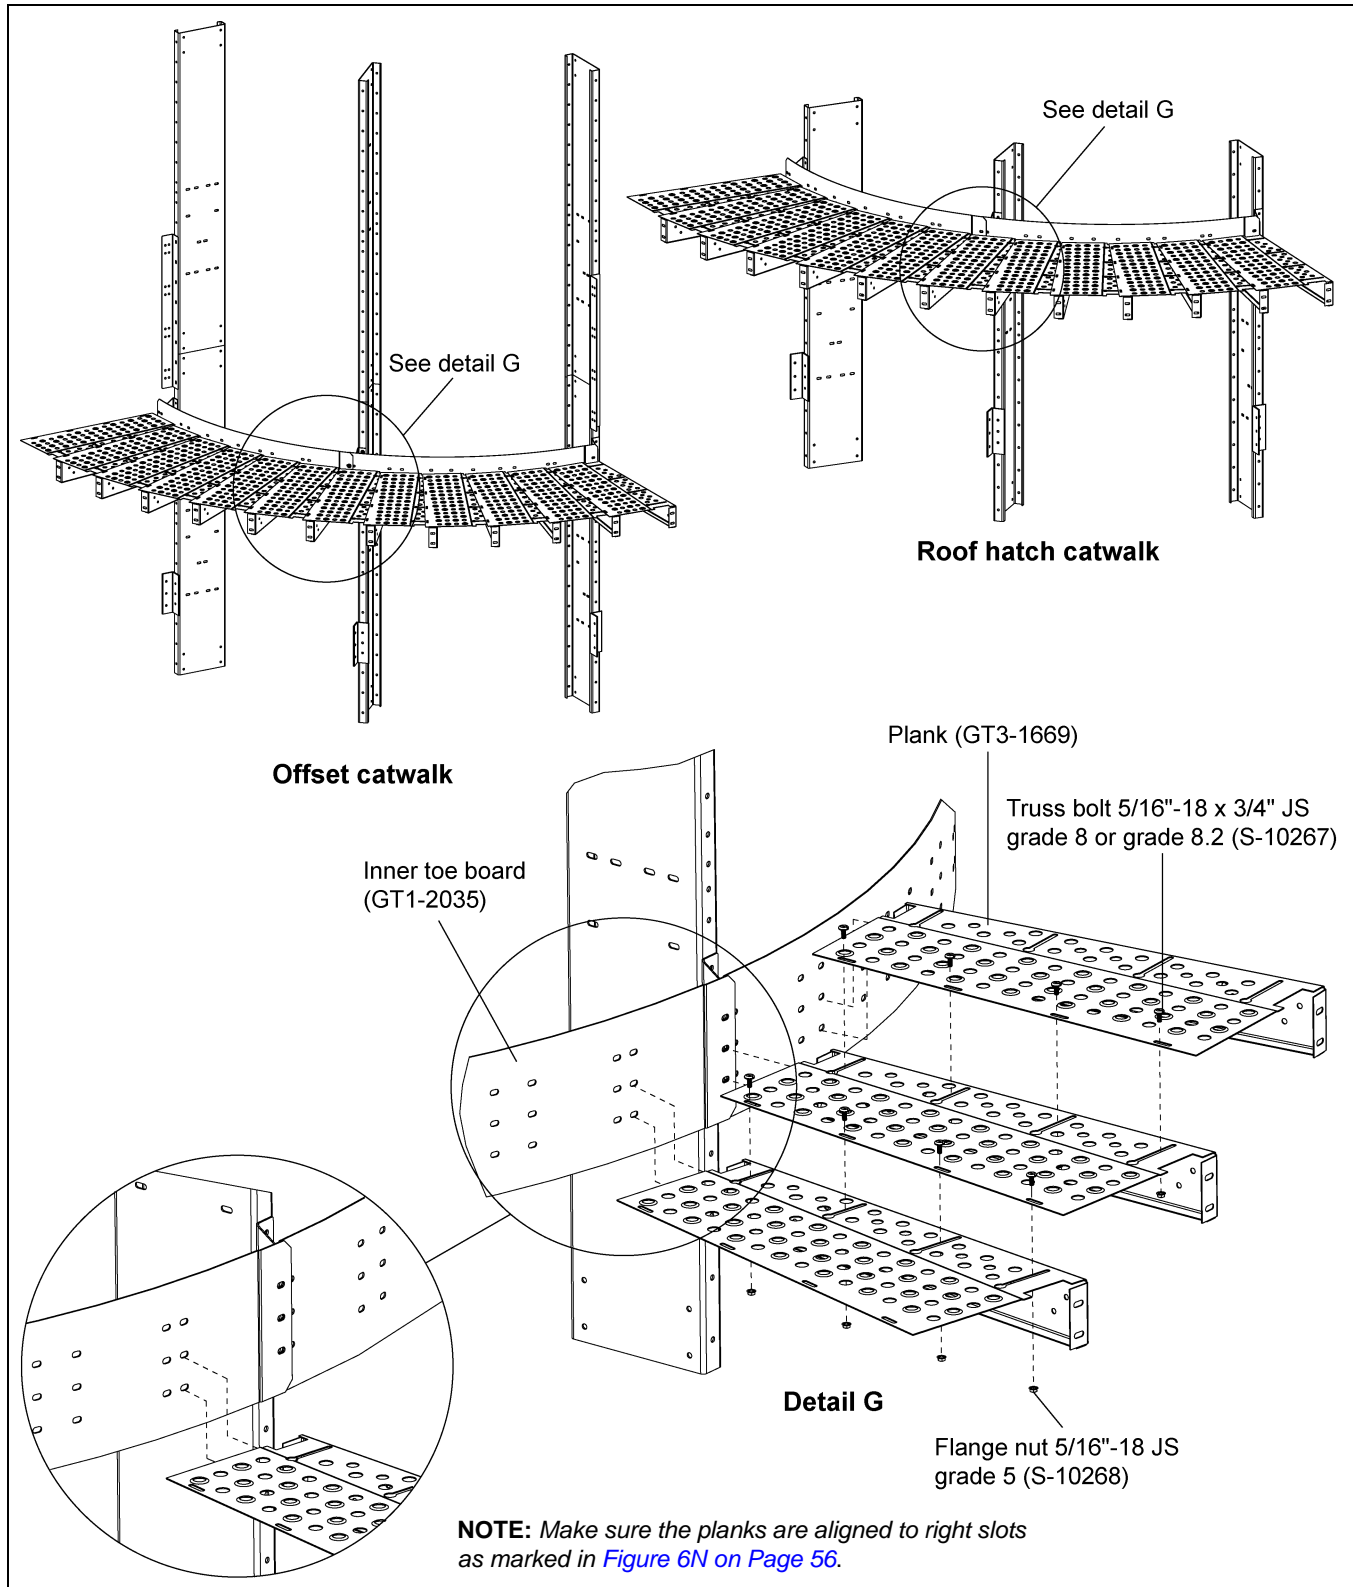

Figure 6M Inner Toe Board (GT1-2035) Plank Installation for Offset and Roof Hatch Catwalks
1. Install planks (GT3-1669) to bottom two (2) holes of the inner toe board (GT1-2035) using 3/8"-16 x 1" JS grade 8 or grade 8.2 bolts (S-7485) and 3/8"-16 ZN grade 5 nuts (S-968). (See Figure 6M.)